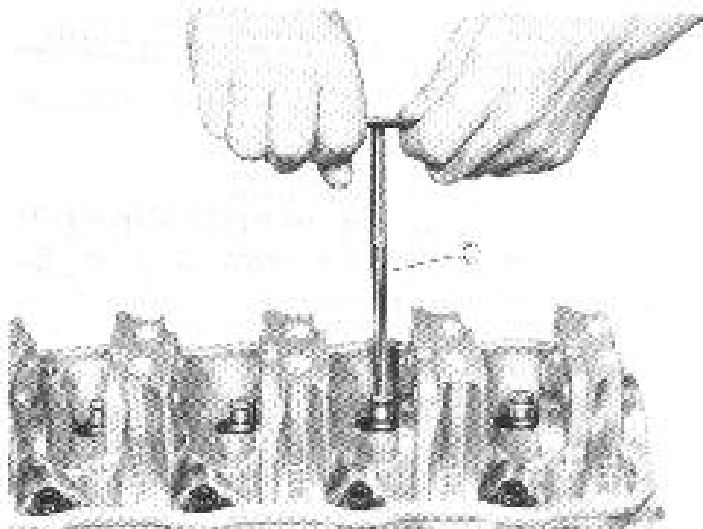

Fig. 3-61
- 3) Check all valve guides in place for I.D. and, if the I.D. reading compared with the stem diameter reading indicates too small a radial clearance, ream the guide I.D. with the reamer ㉔ (09916-34520), as shown in Fig. 3-61.